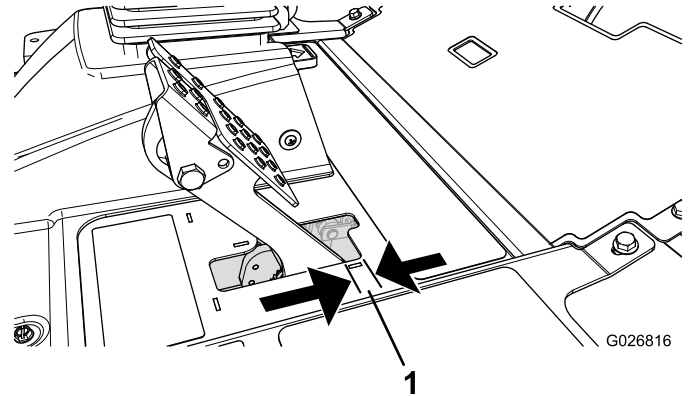

Figure 94
Adjust the brakes when there is more than 2.5 cm (1 inch) of free travel of the brake pedal, or when more holding force is required (Figure 94). Free travel is the distance that the brake pedal moves before you feel braking resistance.
2. Tighten the rear nut to move the cable backward until brake pedals have 0.63 to 1.27 cm (1/4 to 1/2 inch) of free travel, before the wheel locks up (Figure 94).